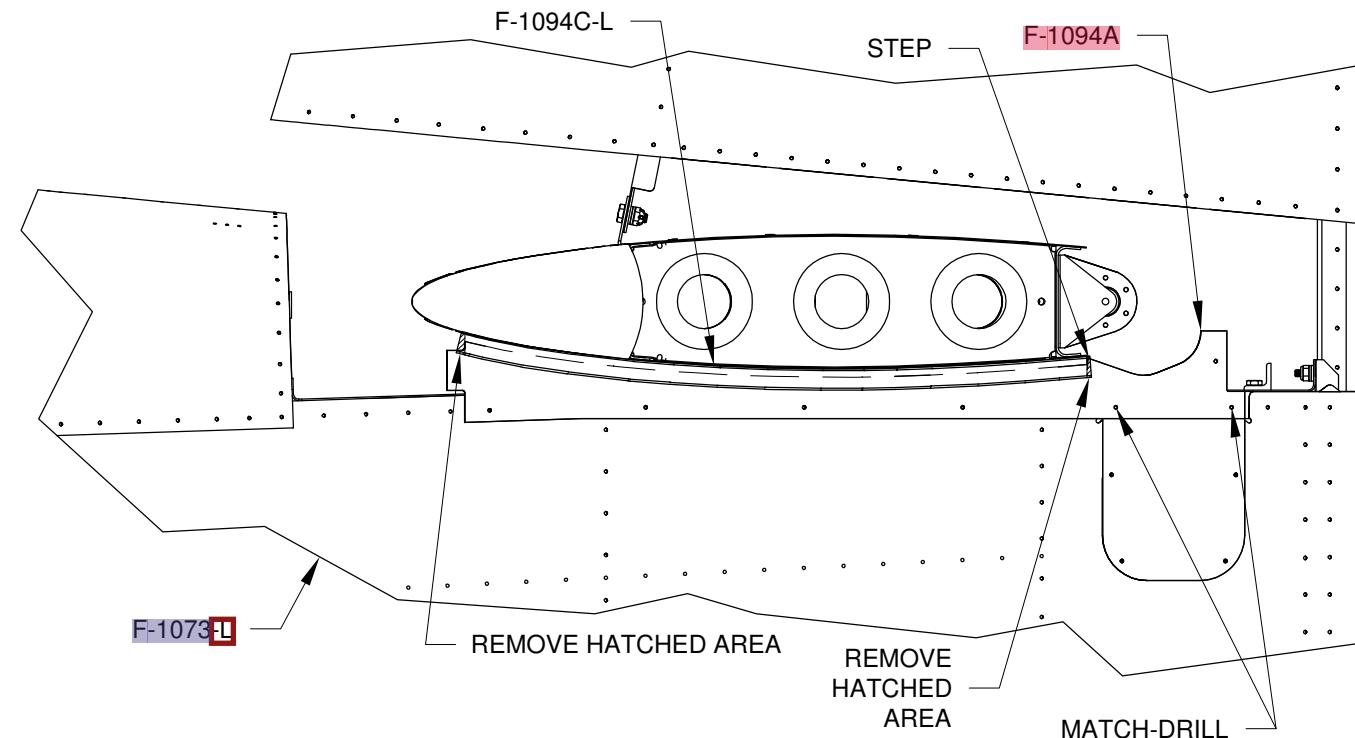

FIGURE 3: FITTING THE GAP SEAL AND GAP FAIRING
Step 7: Mark and trim the aft edge of the **F-1094C** Gap Seal parallel with the step (see Figure 3) in the **F-1094A** Empennage Gap Cover. The **F-1094C** Gap Seal has been created oversize to account for material shrinkage over time. Compress the gap seal onto the **F-1094A** Empennage Gap Cover as shown in Figure 3 leaving just enough material to properly trim the forward end of the gap seal. Mark and trim the forward edge of the gap seal as shown in Figure 3. This will create **F-1094C-L**.
Step 8: Install the **F-824B** Cover Plate on the tailcone assembly, using at least two of the four lower attach holes. Cleco the **F-1094A** Gap Cover to the tailcone assembly (the holes were left open in the Section 10 Tailcone Assembly). See Figure 3.
Step 9: Match-Drill #40 the aft two lower holes indicated in Figure 3 in the **F-1094A** Empennage Gap Cover into the **F-824PP** Cover Plate and **F-1032-L** Tailcone Longeron Left.